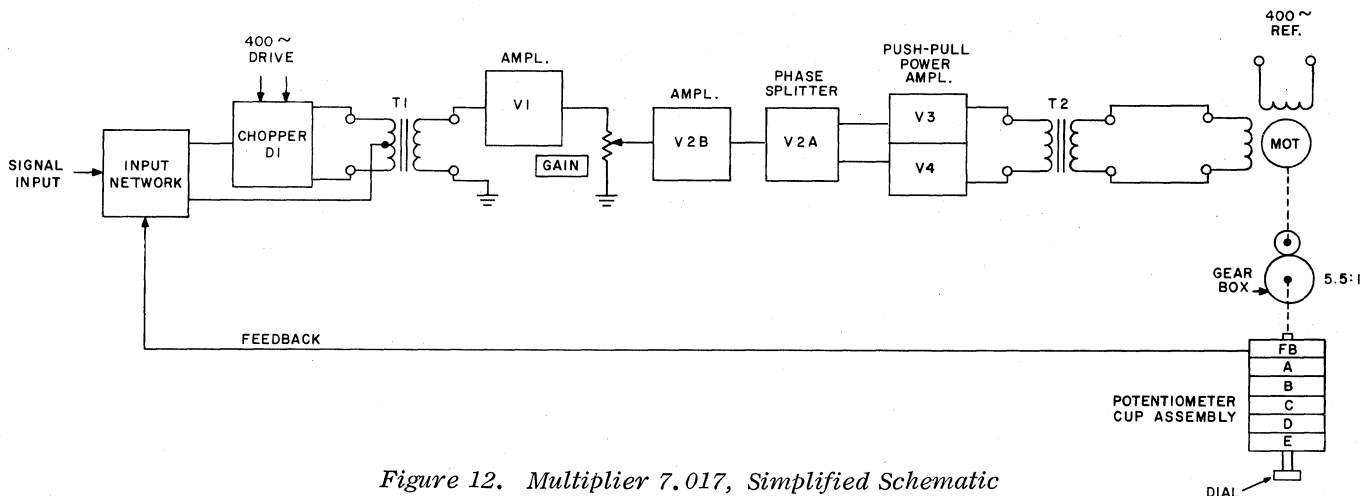

Figure 12. Multiplier 7.017, Simplified Schematic
The multiplier circuitry consists of a servo amplifier (with input network and modulator) servo motor, gear train and a multiplying potentiometer. (See Figures 12 and 13.) The servo amplifier develops a motor-positioning signal from two sources: (1) a common variable signal coupled to the signal input, and (2), the feedback voltage (FB). The signal input represents the magnitude of the common variable by which the other variables are to be multiplied. The feedback voltage is derived from the wiper arm of the feedback cup of the multiplying potentiometer (see Schematic Diagram D007 017 0S). Coupling of the servo motor to the multiplying potentiometer is provided by a gear train with a ratio of 5.5:1 (motor to potentiometer).